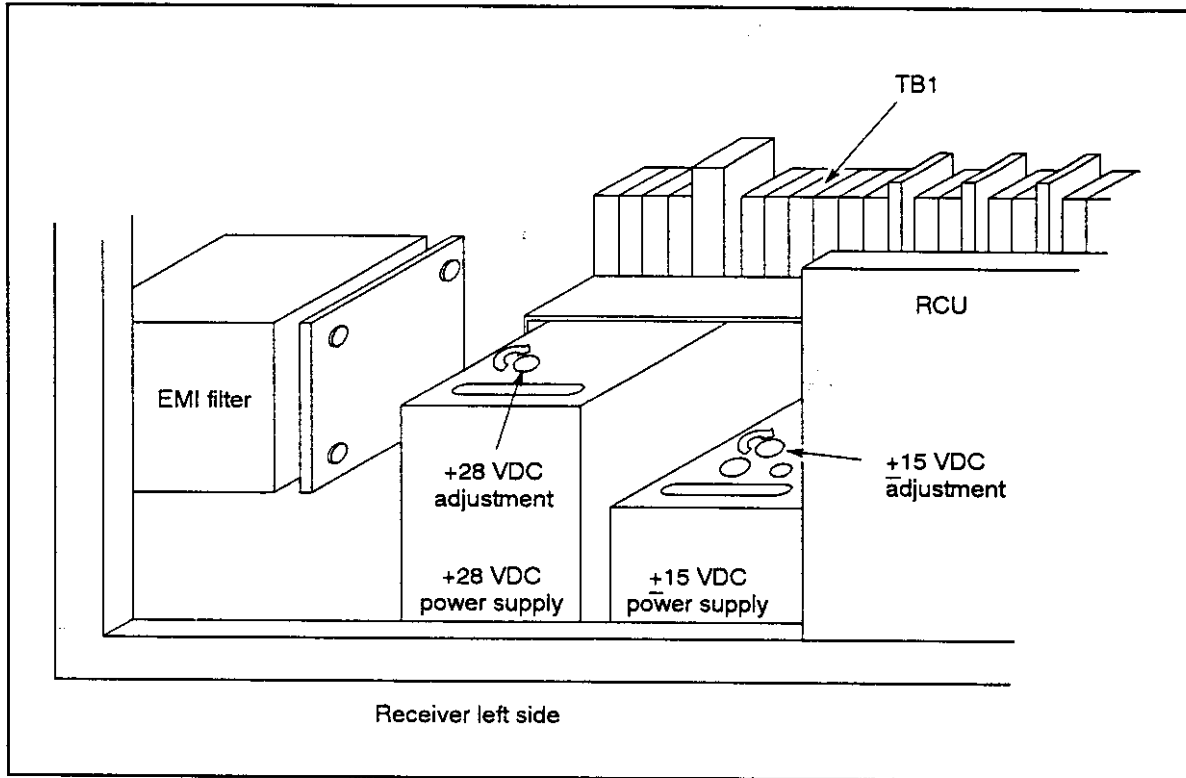

Figure 47. Receiver +28 &  $\pm$ 15 VDC Power Supplies.
- c. If necessary to adjust the output level, use Figure 47 to locate the voltage adjustment points.